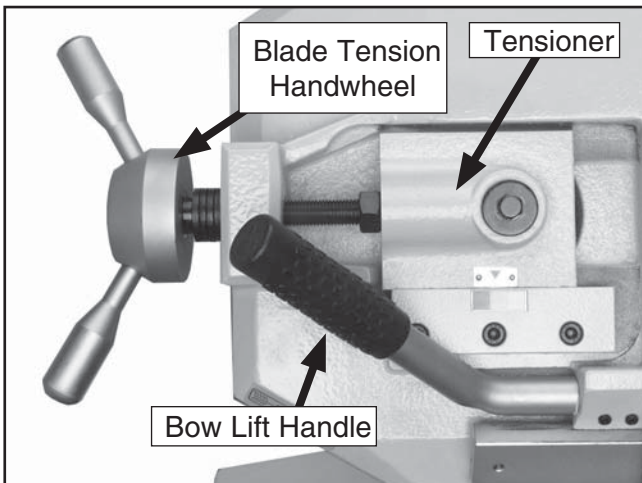

Figure 33. Blade tension handwheel and tensioner, and bow lift handle.
5. Loosen the blade tension handle in **Figure 33** and slip the blade off of the wheels.